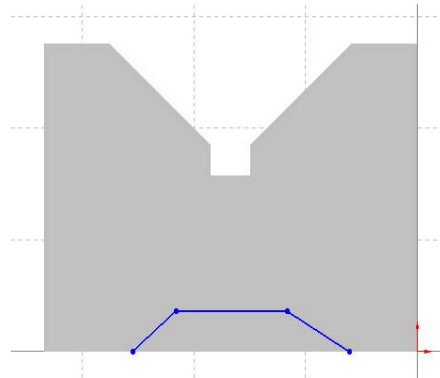

Figure 21 Trapezoid Slot Sketch
5) Draw three lines to form the trapezoid slot sketch as shown in Figure 21.